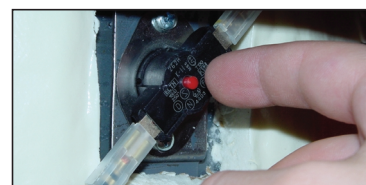

Fig. 3
3. If the burner still does not work, remove the boiler front panel and reset the high limit thermostat on the top of the boiler body (Fig. 3).